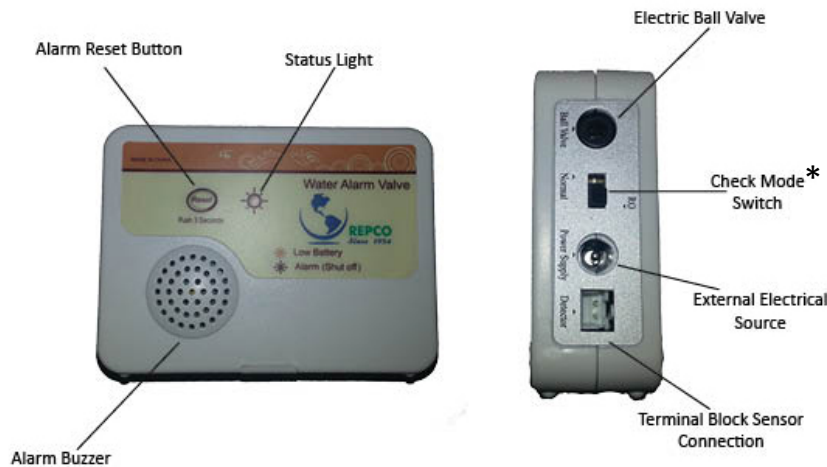

Figure 5 – Water Alarm Valve
- Please choose the correct mode on the mode switch shown in the picture according to the application. In the case of the Bubble-Up® Jr Interactive™, the switch should be in the normal water position. See figure 5*